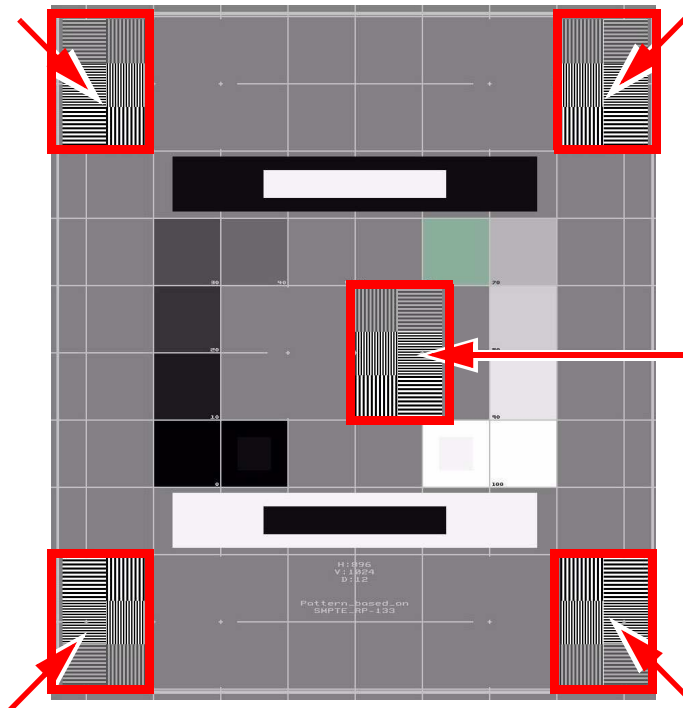

Figure 10 Location of bar patterns
8. The spatial resolution and aliasing of the monitor are considered to be within acceptable limits if the high contrast bar patterns in the test image can be seen as patterns of white and black pairs. To use the pattern, inspect the 6 squares filled with varying widths of alternating black/white horizontal and vertical lines in each corner (see Figure 10) of the image as well as in the very center. You should be able to differentiate all the lines, from wide to narrow (6 pixels, 4 pixels, and 2 pixels) both horizontally and vertically.
- All different bar patterns in the four corners and in the center in the image (see of the Figure 10) shall be visible.